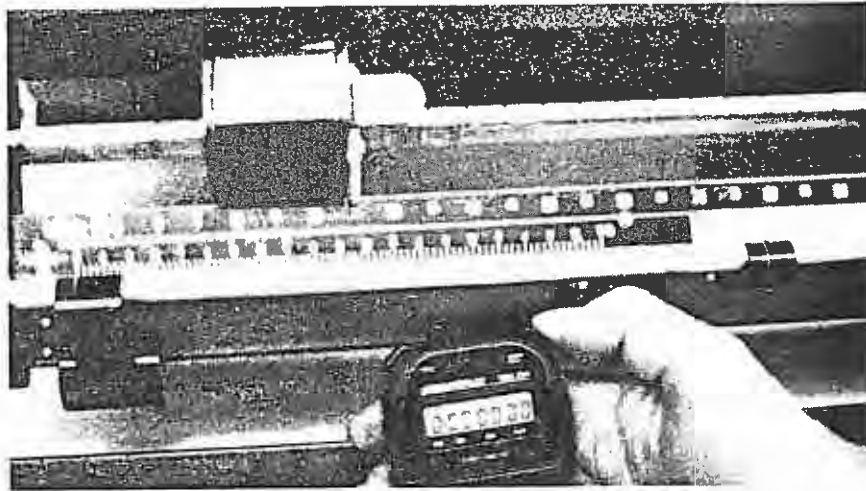

Figure 5.
- 3) When the beam balances, start the stopwatch. Record the weight (Figure 5).